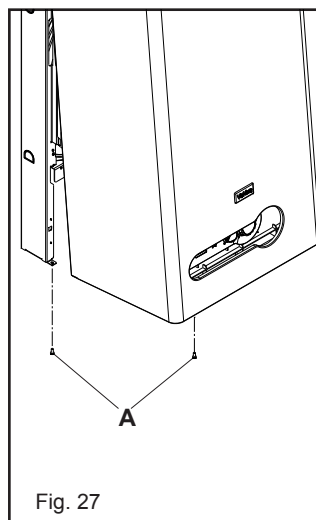

Fig. 27
4.7.1 CASING REMOVAL (fig. 27)